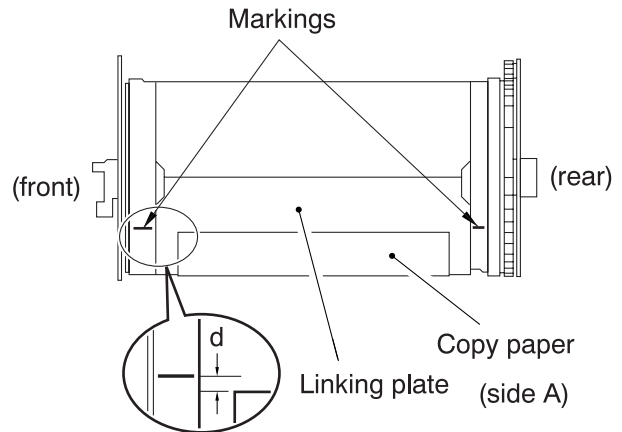

Figure 2-7
- 6) Place a ruler and copy paper against the marking (Figure 2-7) etched to the transfer drum ring (front, rear), and measure the position d of the copy paper in relation to the leading edge of the copy paper. Perform this for both sides A and B.